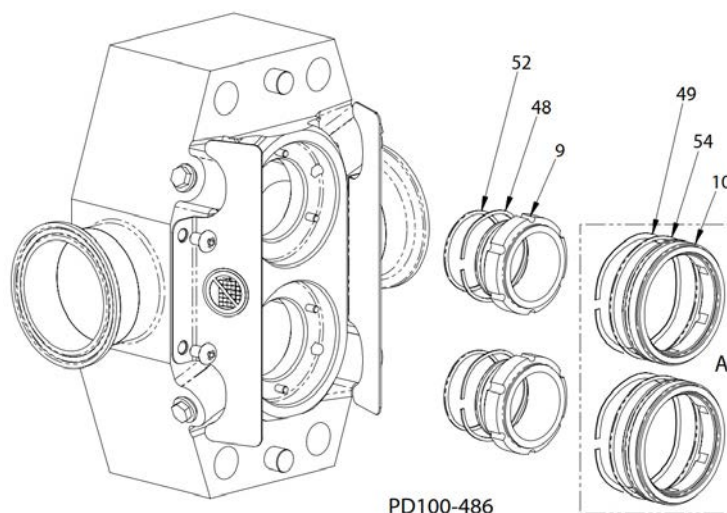

Fig. 35: Remove seals
1. Remove the inner seal (Figure 35, item 9) and wave spring (item 48). Remove the O-ring (item 52) from the inner seal and inspect it. Replace as necessary.
2. On pumps equipped with double mechanical seals (Figure 35, inset A), remove the outer seal (item 10) and wave spring (item 49). Remove the O-ring (item 54) from the outer seal and inspect it. Replace as necessary.